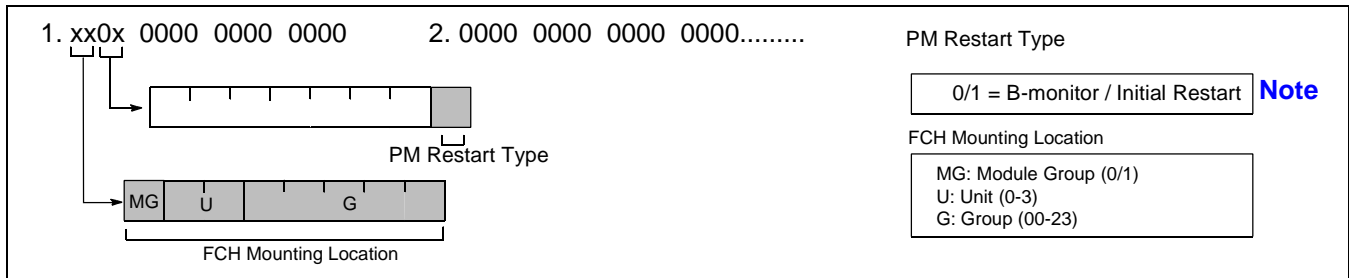

Figure 7-5 3-C PM C-level Infinite Loop (Temporary)
This message is displayed when the C-level program has been detected as abnormal by the Port Microprocessor (PM) mounted on the FCH (PA-FCHA) card. In this instance, the system performs an appropriate restart (B-monitor/Initial restart) according to the frequency of the failures. Refer to Figure 7-5. If the frequency exceeds 15 times an hour, it is judged as permanent. See "3-B PM C-level Infinite Loop \(Permanent\)".